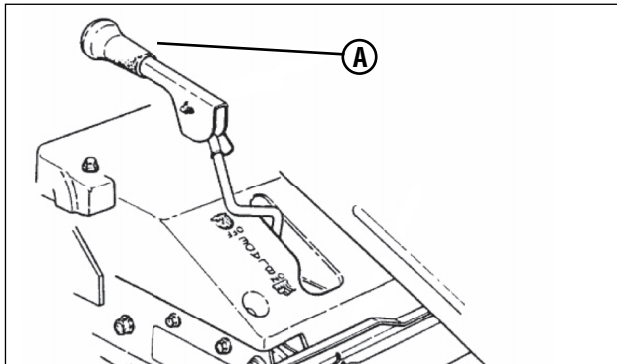

Figure 4: Blade lever (in 'Off' position)
2. Make certain the Blade Lever (**A, Figure 4**) is in the “OFF” position.
3. Make certain the Blade Lever (A, Figure 4) is in the “OFF” position.